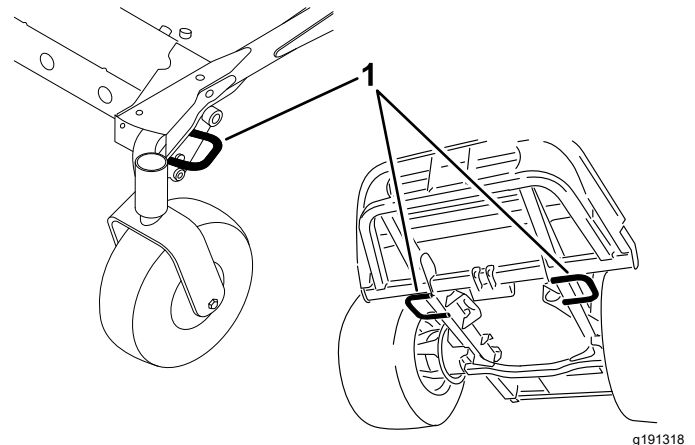

Figure 34
5. Use the tie-down loops on the machine to securely fasten it to the trailer or truck with straps, chains, cable, or ropes (Figure 34).